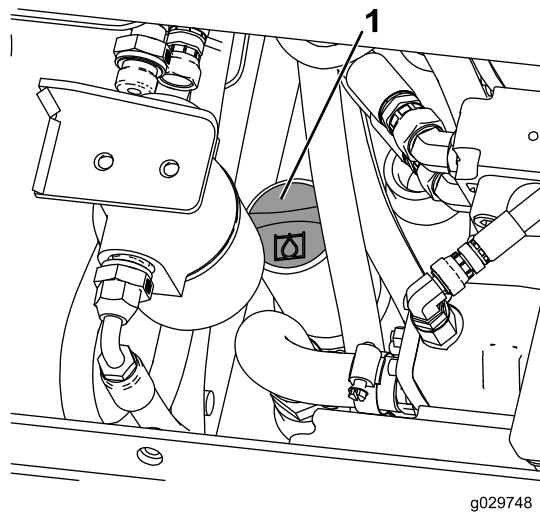

Figure 64
7. Clean the area around the filler neck of the hydraulic tank (Figure 64).